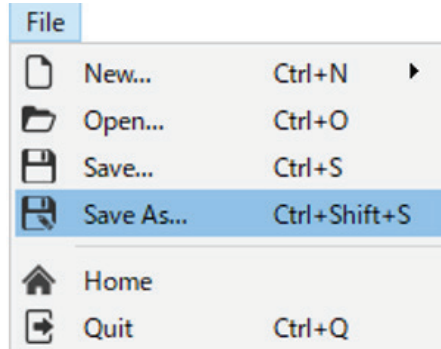

Figure 7-53 Save project file
- b) Click Save As. (Figure 7-53)